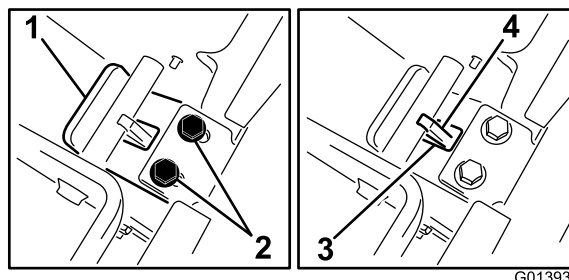

Figure 15
2. While maintaining the pressure on the back plate, slide the tongue toward you until the lip of the tongue plate makes contact with the cross bar (Figure 15).